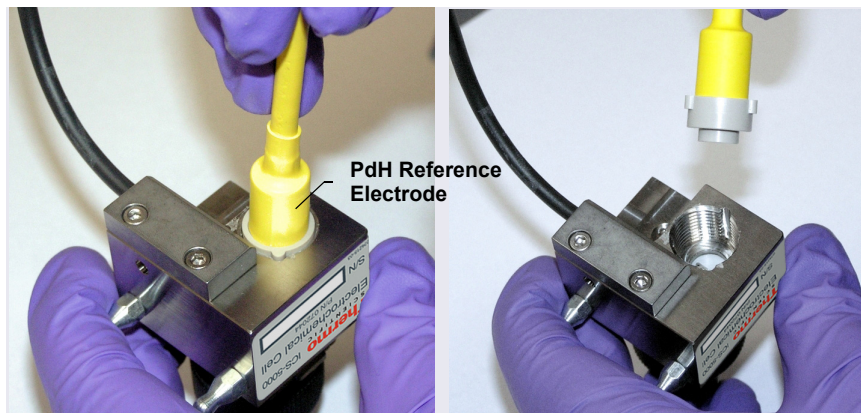

Figure 10-72. Removing the PdH Reference Electrode from the Reference Electrode Well
3. Pull the reference electrode out of the well (see Figure 10-72).